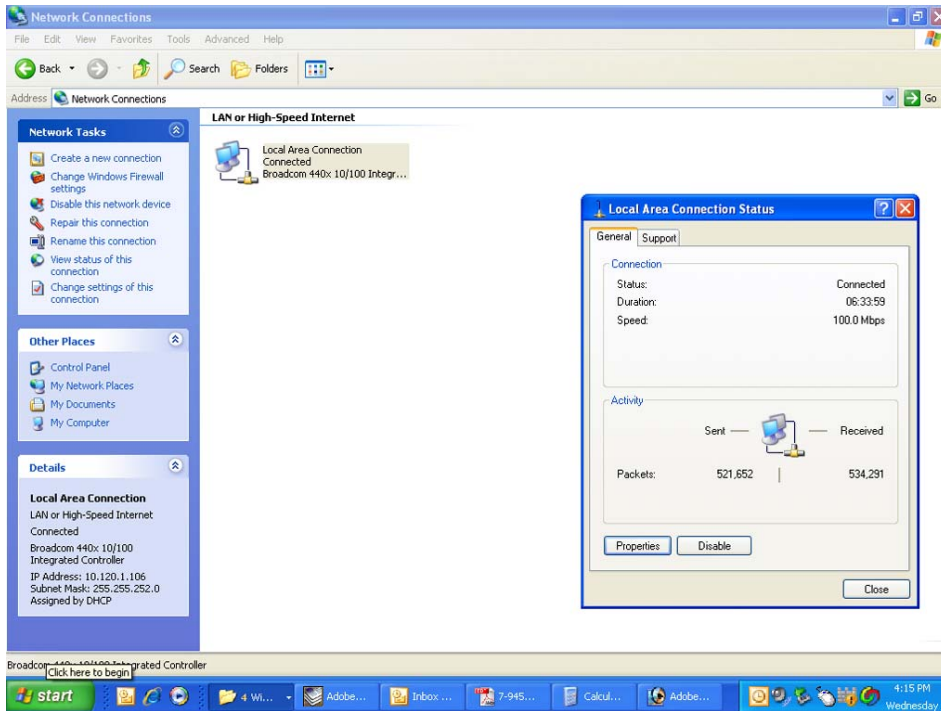

Figure B4: Select the “Properties” tab.
- 5) The “Local Area Connection Status” box will open. Single click the “Properties” tab as shown in **Figure B4**. **Note:** If you do not have the cable connected between the service computer and the Power Monitor the “Local Area Connection Status” box will not open. Instead proceed to step 6.